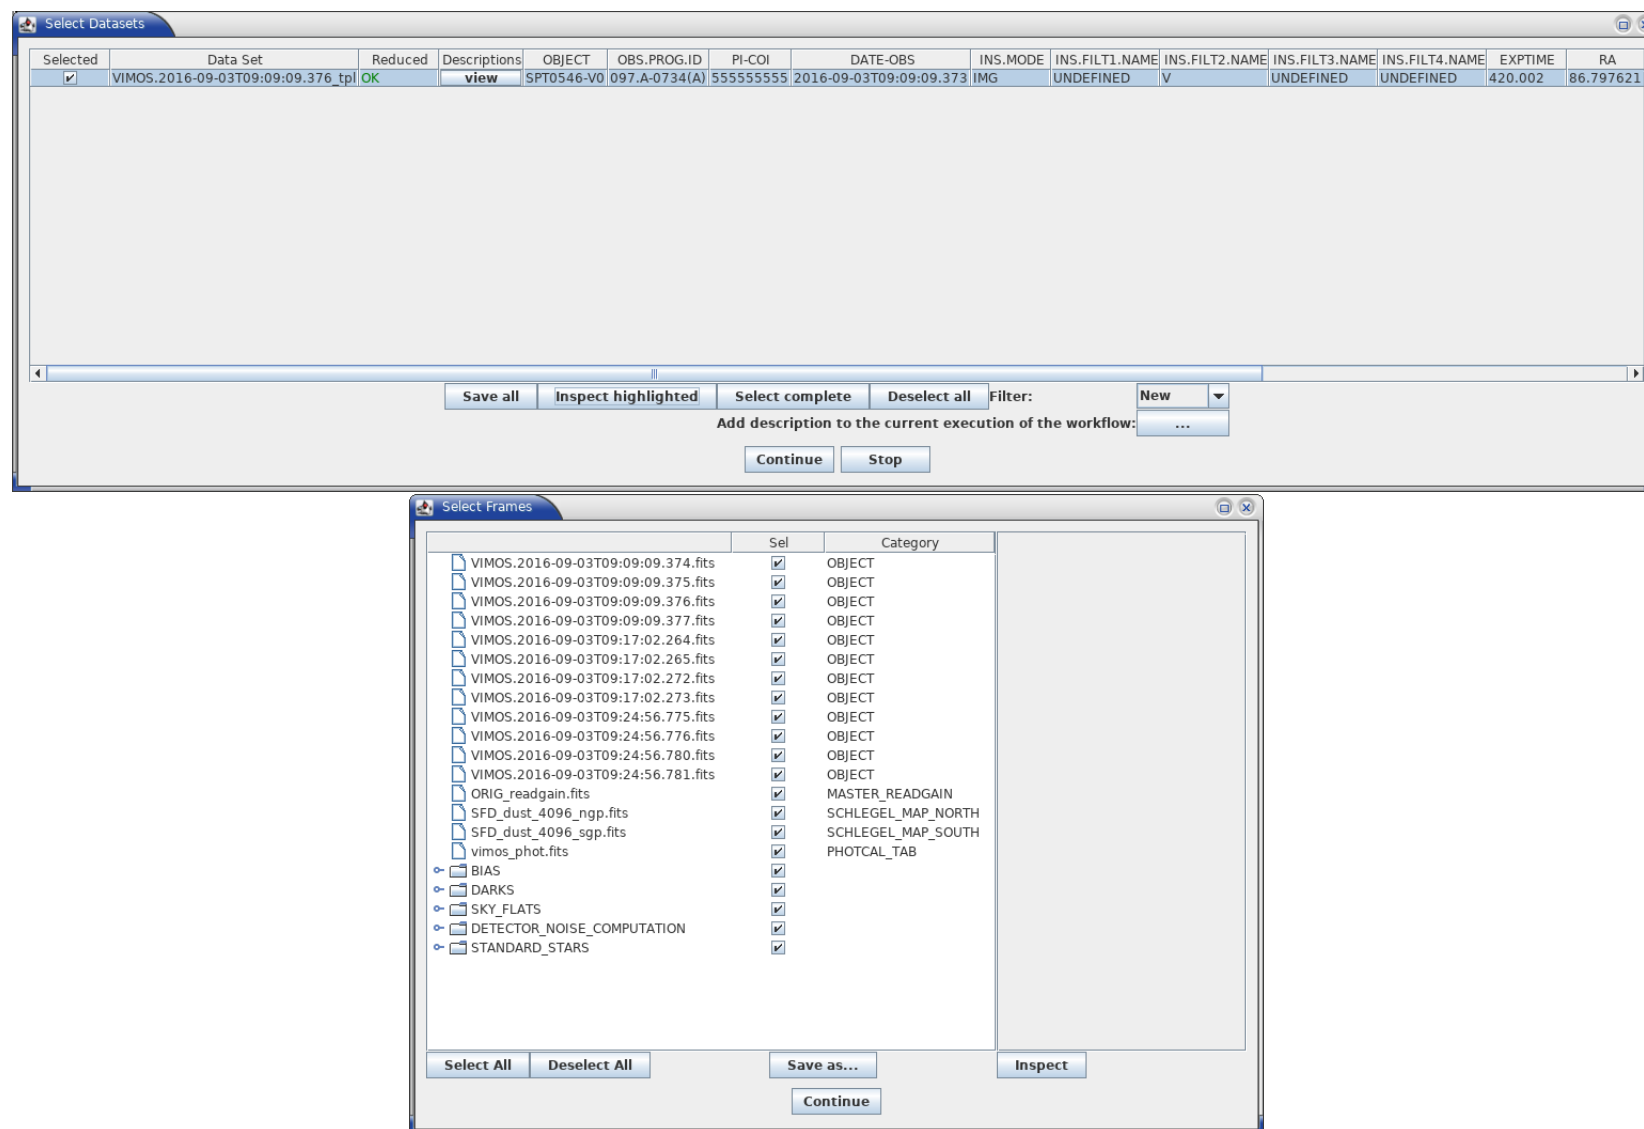

Figure 5.3: **Top:** "Select DataSets" window. **Bottom:** "Inspect highlighted" window showing details of the VIMOS demo data set.
7. The `Data Set Chooser` actor will be highlighted next and will display a “Select Datasets” window (see Figure 5.3) that lists the datasets along with the values of a selection of useful header keywords⁴. The first column consists of a set of tick boxes which allow the user to select the datasets to be processed. By default all complete datasets which have not yet been reduced will be selected. A full description of the options offered by the `Data Set Chooser` will be presented in Section 7.3.2.